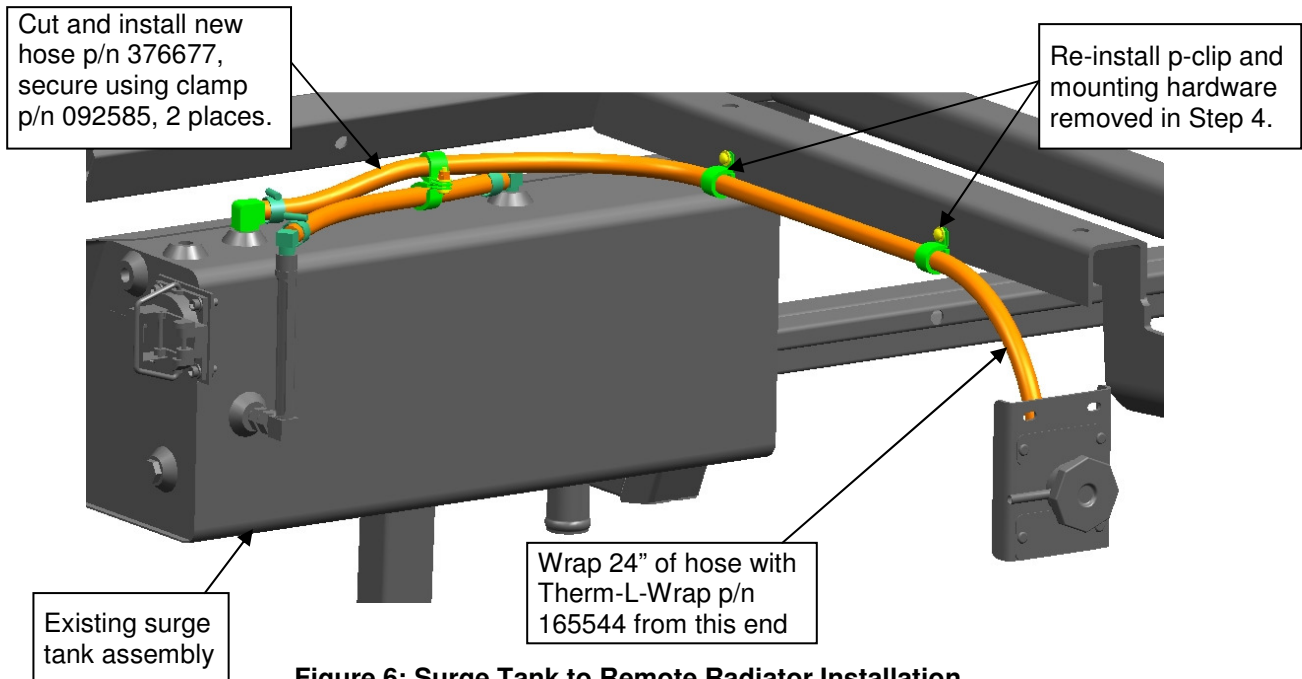

Figure 6: Surge Tank to Remote Radiator Installation
14. Measure and cut (approx. length 40") new hose (NF p/n 376677) and install between 90° elbow on the top of the surge tank installed in Step 12 and the 90° elbow installed into the remote radiator plate assembly installed in Step 13. Secure using clamps (NF p/n 131322, 2 places), torque to 10-15 in*lbs. Wrap 24" of Therm-L-Wrap (NF p/n 165544) around the hose starting from the remote radiator cap end. Secure hose and wrap to frame at the same locations and using the same hardware that was removed in Step 4. See Figure 6.